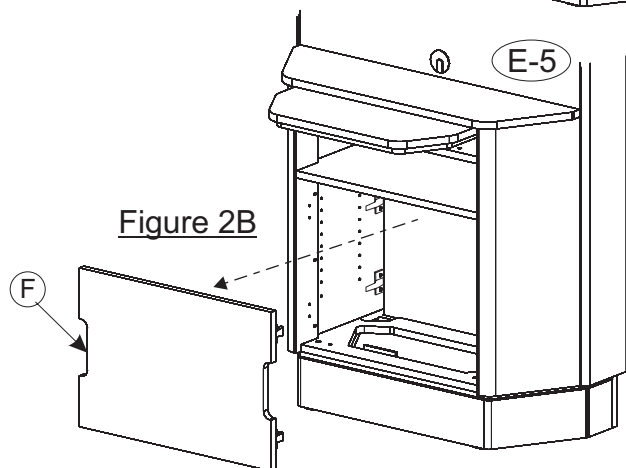

Figure 2B
For E-5 models: Remove Inner Back Panel (F) by pulling back on the panel until the Keku Latches release (see Figure 2B).